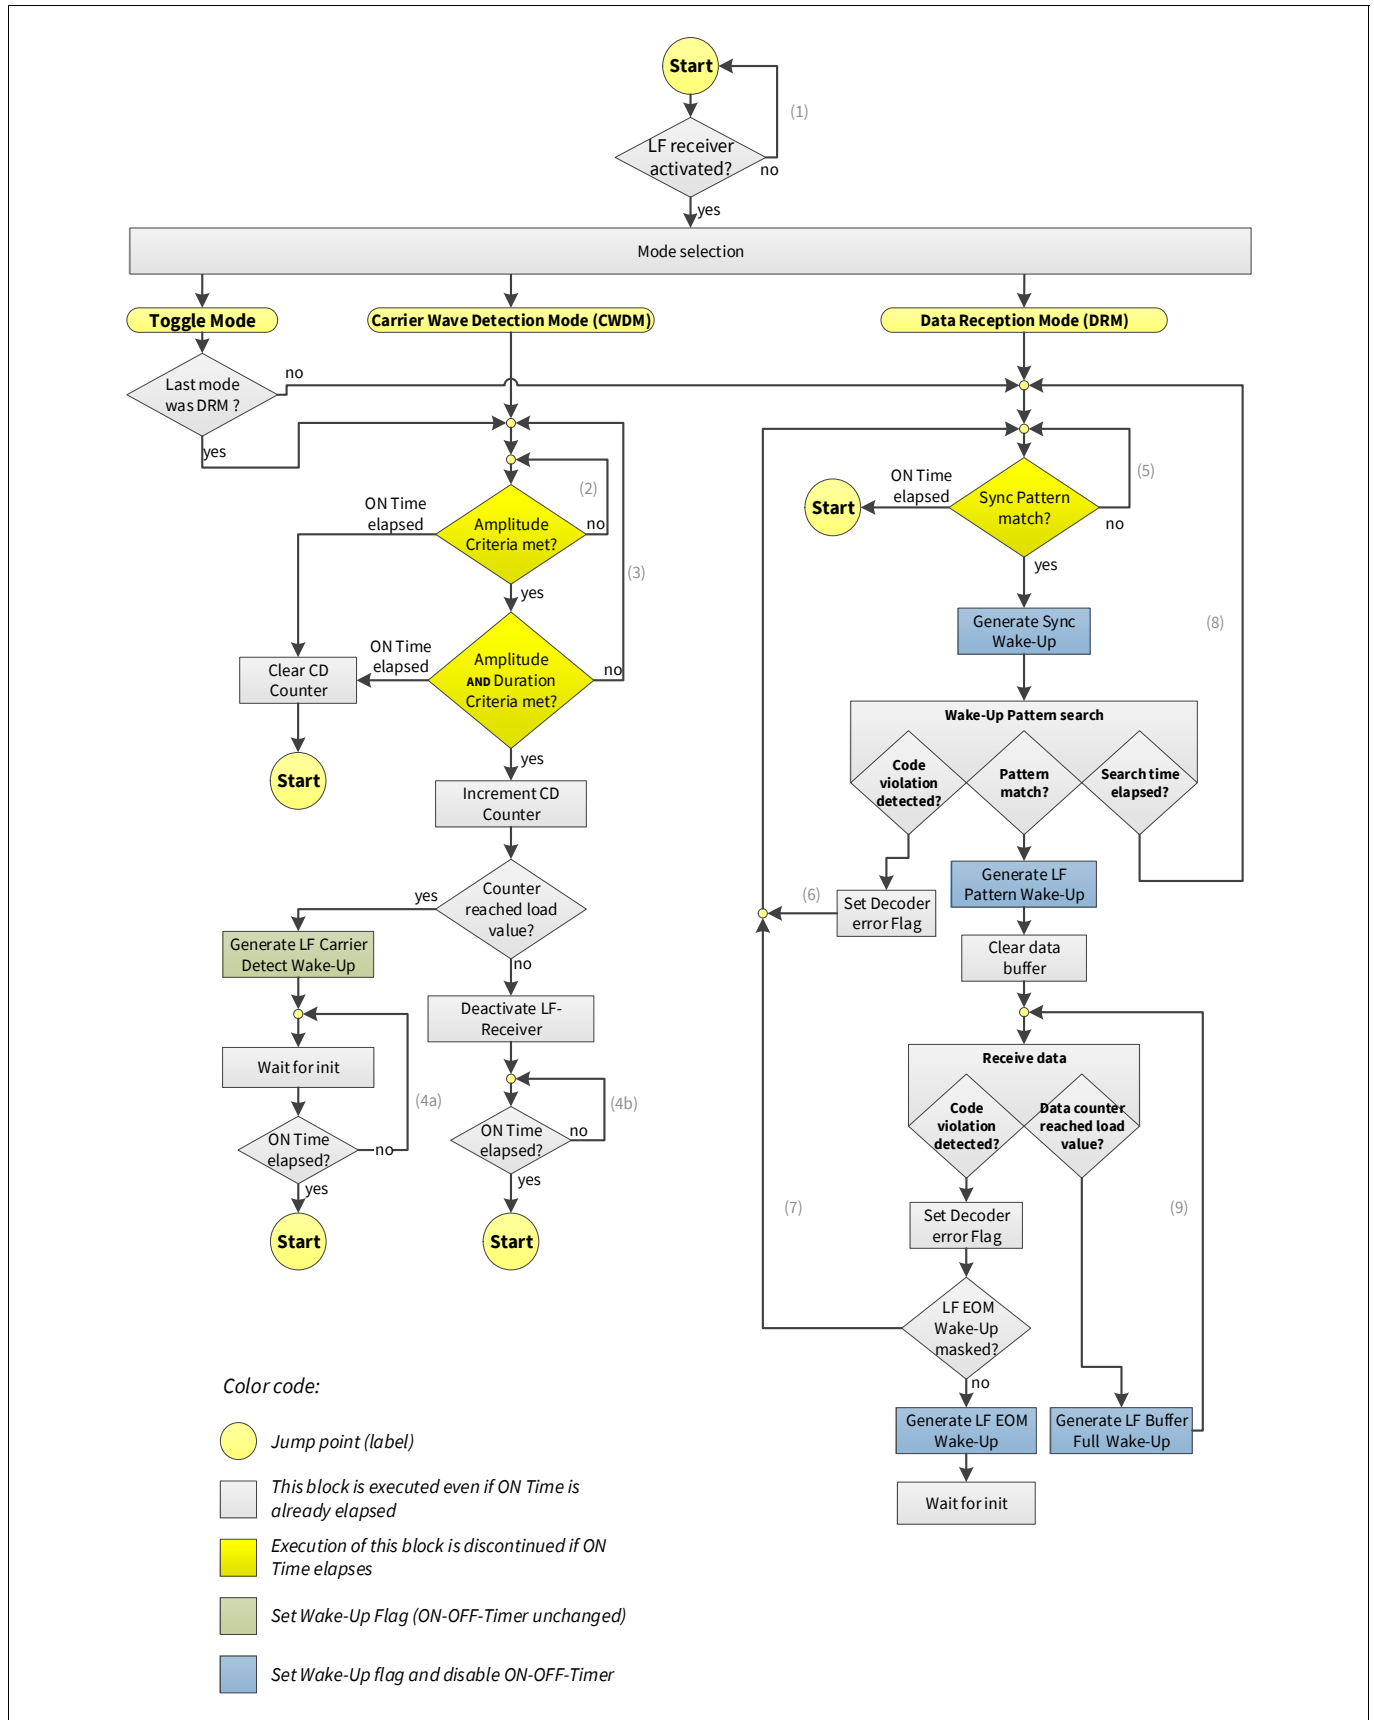

Figure 19 LF receiver flow diagram
The LF receiver is controlled by a state machine. Figure 19 shows the corresponding flow diagram and how the receiver behaves for the different operating modes:
In many applications the LF receiver is controlled by the ON-OFF-Timer in order to reduce current consumption. Since LF signals are asynchronous to LF receiver timing, certain actions are not simply interrupted when the ON-time elapses. Other actions are immediately terminated. This is illustrated in Figure 19 by different colors.
If the LF receiver is switched on first time in application code by setting bit ENLFRX the LF state machine is automatically initialized. As can be seen in Figure 19 after certain LF wake-up events the state machine waits for initialization ("Wait for init"). In this case application code needs to re-initialize the LF state machine by setting bit LFINIT before switching the device back into power-down. Without re-initializing the LF receiver will not trigger any more wake-up event. LFINIT is cleared automatically after initialization. If the ON-OFF timer is used the re-initialization will be carried out automatically during the OFF cycle. Note that all wake-up events of the data reception mode disable the ON-OFF timer by clearing ENOOTIM. Hence, if the ON-OFF timer is used, ENOOTIM and LFINIT must both be set in order to fully re-initialize the LF receiver configuration after wake-up.
The DRM is illustrated in the right branch of the diagram in Figure 19. This mode starts with sync pattern search, loop (5). This loop is terminated as soon as the ON time elapses. After a valid sync pattern has been detected, a sync event is triggered and the receiver stays activated in order to check for the other criteria II to IV, even if the ON time elapses. Next, the wake-up pattern search starts. This search terminates if a certain time, depending on Baud-rate and pattern length, elapses. In this case sync search restarts, loop (8). Wake-up pattern search is also terminated by a Manchester code violation, loop (6). If a valid wake-up pattern is detected the maskable LF-Pattern wake-up is triggered. If no data reception is required the LF receiver can be deactivated in application code after this wake-up. If still activated, the receiver proceeds with data reception.